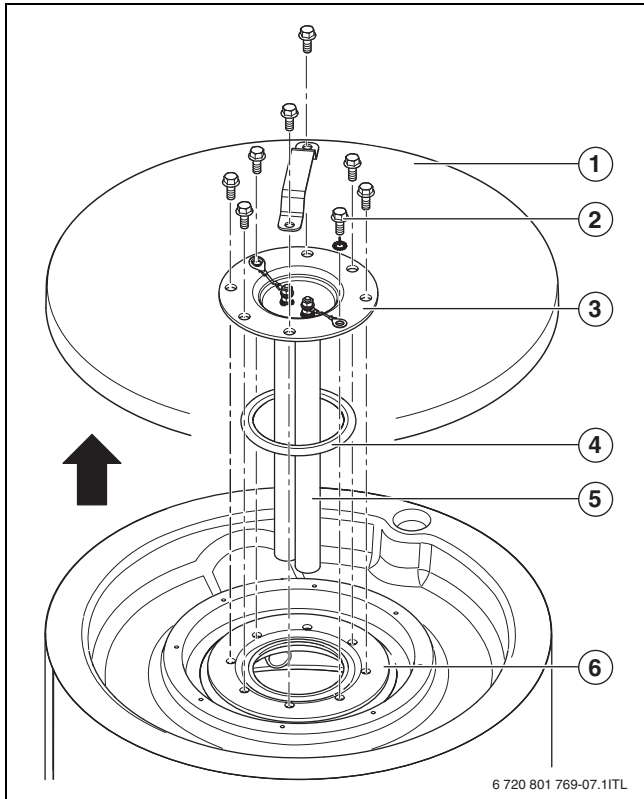
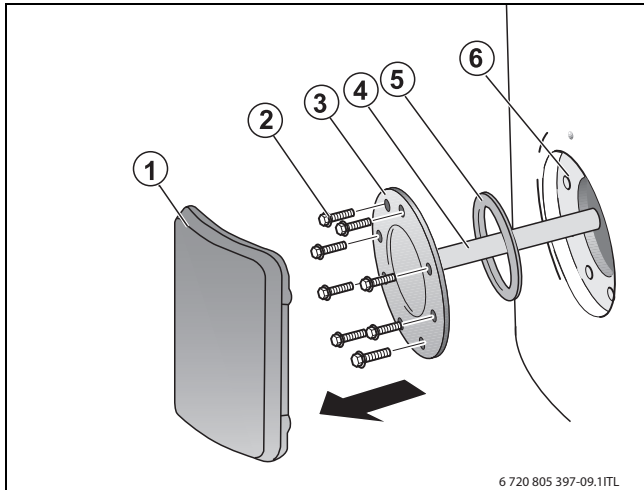

Fig. 17 Removing the cleanout cover SU54/5
Fig. 18 Removing the cleanout cover SU80/5, SU100/5
- ▶ PS jacket cover (SU54/5) (→ Fig. 17, page 14, [1]) or handhole cover (SU80/5, SU100/5) (→ Fig. 18, page 14, [1]) of the DHW tank.
- ▶ Remove the cleanout cover (→ Fig. 17, page 14), if not yet removed.